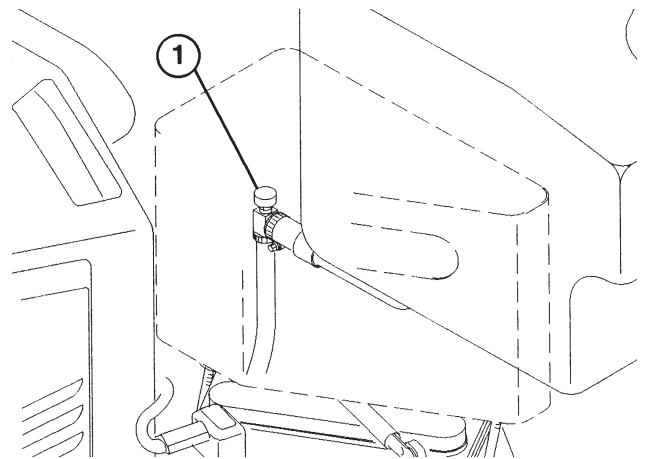

Figure 8
**Fuel Shut-Off Valve** (Fig. 8)—Close the fuel shut-off valve when storing the machine.